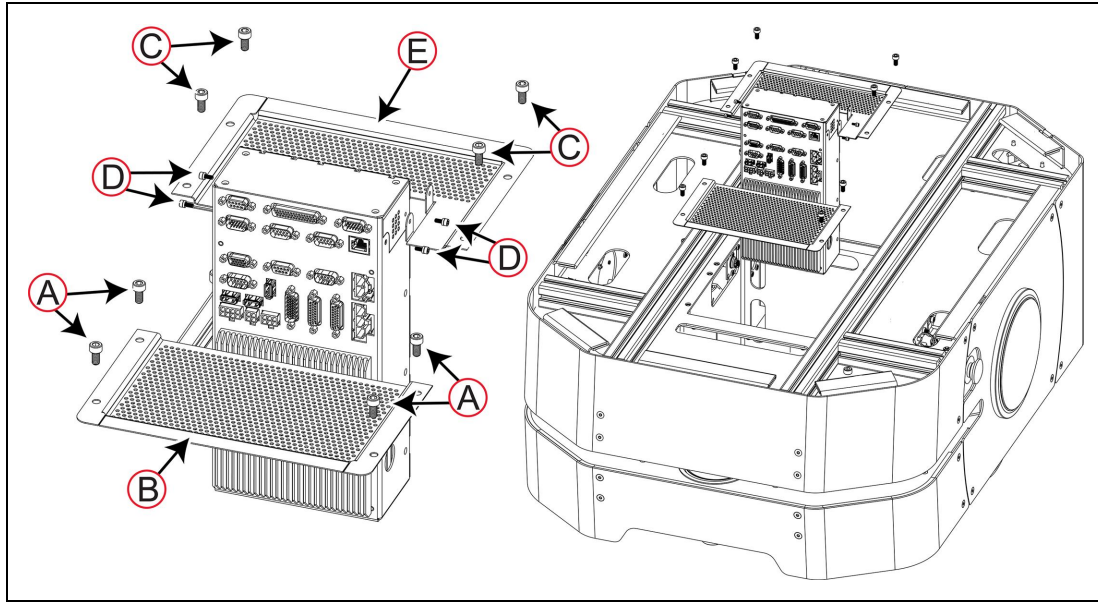

Figure 8-21 LD-250 Core Mounting Brackets and Fasteners
Figure 8-21 shows the mounting brackets and fasteners that you remove to access the LD-250 Core. Retain all fasteners to use when installing the replacement core.
6. Use a 5 mm hex key to remove four 12 mm M6 socket head cap screws (A) and then remove the perforated cover plate [(B) in Figure 8-21].
7. Use a 2.5 mm hex key to remove the four 8 mm M3 socket head cap screws and washers (D) to detach the LD-250 Core from its mounting bracket (E).
8. Use a 5 mm hex key to remove four 12 mm M6 socket head cap screws (C) and then remove the perforated mounting bracket [(E) in Figure 8-21].
3. Use a 2.5 mm hex key to attach the mounting bracket [(E) in Figure 8-21] to the LD-250 Core with four 8 mm M3 socket head cap screws and washers (D).
4. Use a 5 mm hex key to attach the perforated mounting bracket [(E) in Figure 8-21].
5. Use a 5 mm hex key to attach the perforated cover plate [(B) in Figure 8-21] using four 12 mm M6 socket head cap screws (A).